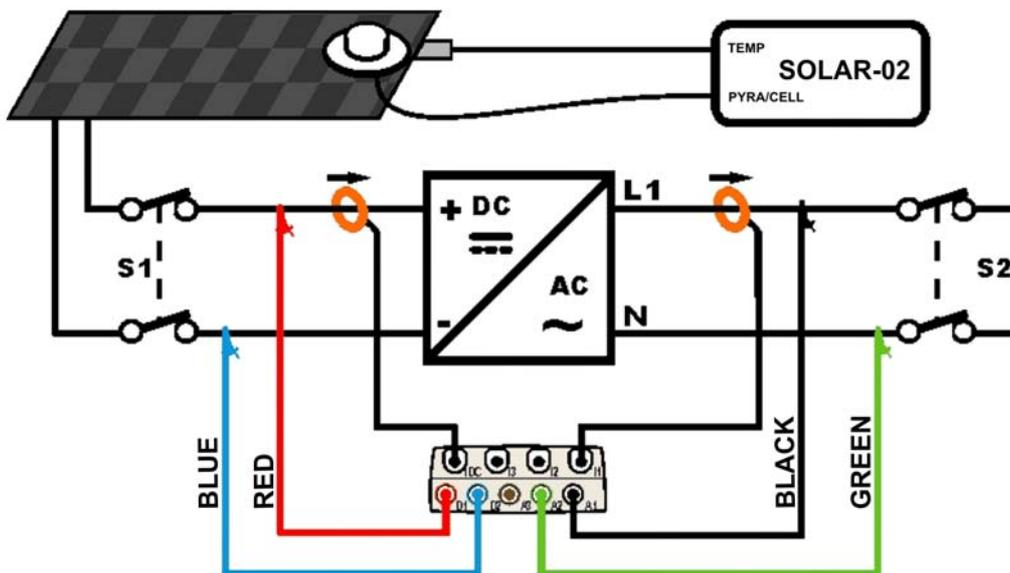

Fig. 249: Connecting the instrument in a PV-1 system with SOLAR-02
3. Connect inputs **D1** and **D2** to the positive and negative string output pole respectively. Connect inputs **A1** and **A2** to the phase and neutral conductors, respecting the colors as shown in Fig. 249
4. Connect the DC current clamp to the positive string output conductor **by respecting the direction of the arrow** on the clamp itself as indicated in Fig. 249. **Check the status of internal batteries of the DC clamp after the connection to the installation**
5. Connect the AC current clamp to the Phase L1 conductor **by respecting the direction of the arrow** on the clamp itself as indicated in Fig. 249. Connect the output of the clamp to the **I1** input of the instrument.